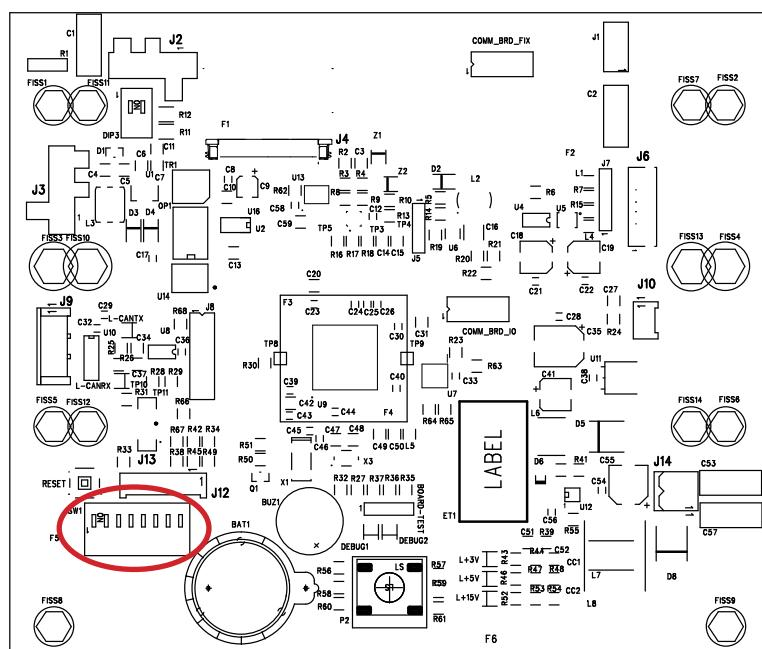

Fig. 11
Once the installation of the art. 502 kit is complete, it is necessary to enable the kit recognition in the (50) panel board by moving the DIP switch 5 of the SW1 bench to ON (fig. 11)